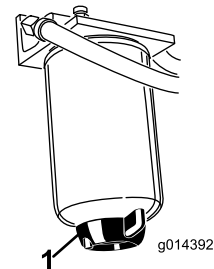

Figure 38
Drain the water or other contaminants from the water separator (Figure 38) daily.
2. Loosen the drain plug on the bottom of the filter canister (Figure 38).